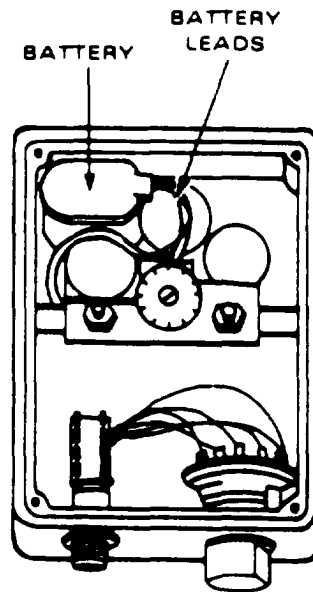

Figure 3-15. Total Dissolved Solids (TDS) Meter (Portable) Battery Replacement
a. Calibration. Perform a calibration check in accordance with para. 2-32c(4) each time before using TDS meter. Whenever switching to or from seawater sources, meter must be recalibrated in accordance with para. 2-32c(2) or para. 2-32c(3).
b. Battery Replacement (fig. 3-15):
(1) Remove bottom plate.
(2) Disconnect leads from battery.
(3) Install new battery and connect leads.
(4) Install bottom plate.
(5) Check calibration in accordance with para 2-32c.